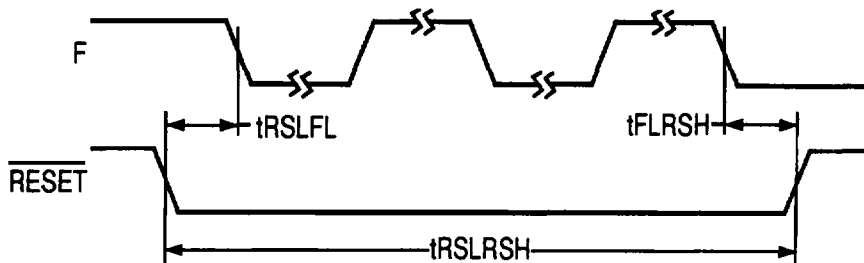
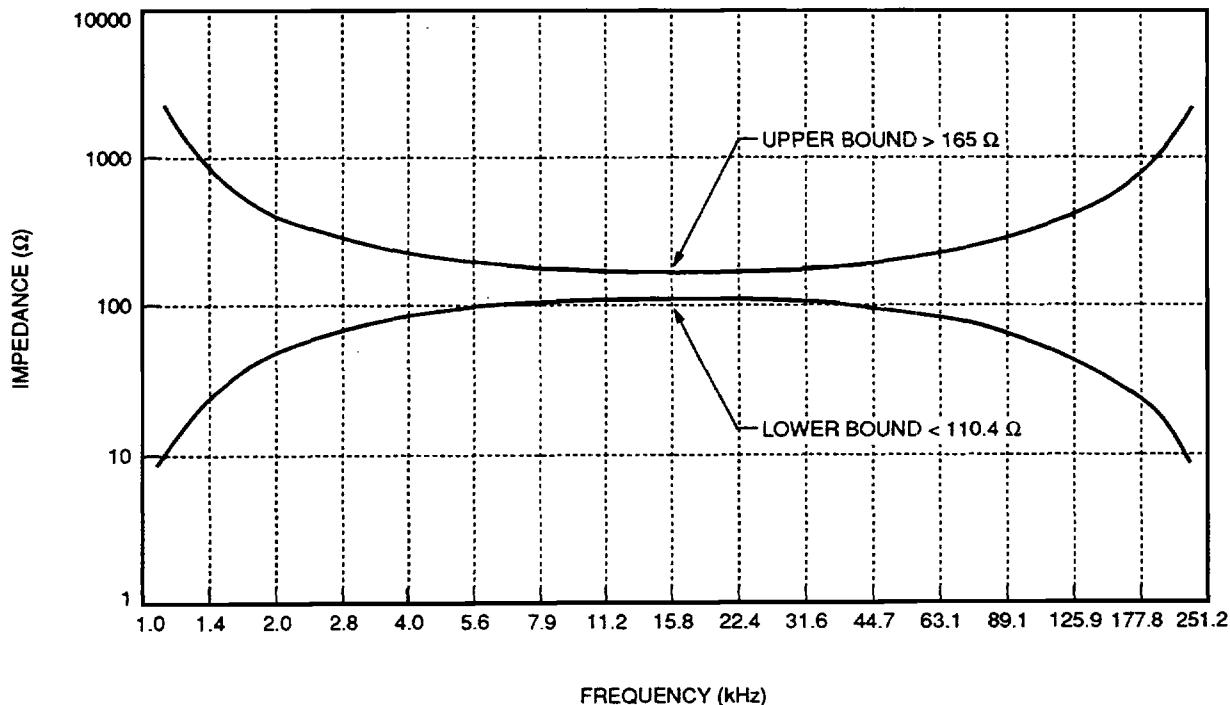

Figure 19. RESET Timing Diagram
Figure 21. Transceiver Impedance Limits
- A7:** The only common-mode filtering parts we have any data on are two common-mode chokes from Pulse Engineering, (619) 674-8100, that are intended to help protect against external common-mode noise. The part numbers are PE-68654 (12.5 mH) and PE-68635 (4.7 mH), and in lab experiments, no noticeable degradation in transmission performance was observed. These chokes are typically effective in the frequency range 100 kHz—1 MHz.
- As far as emissions are concerned, we don't have a lot of data. We have seen some success with the use of RJ-45 connectors that have integral ferrite beads such as those from Corcom, Inc., (708) 680-7400. These provide some flexibility in that they have the same footprint as some standard RJ-45 connectors.
- A8:** The NT1 impedance limits looking into tip/ring are derived from the T1.601 return loss requirements (Figure 19 in T1.601). At the narrowest point in the templates, the permissible range is between 111 Ω to 165 Ω. The tolerance on the PTC will reduce the impedance margin somewhat, but should still be acceptable.
Figure 21 is derived from the return loss template in ANSI T1.601. Return loss is a measure of the match between two impedances on either side of a junction point. The following equation is an expression of return loss in terms of the complex impedances of the two halves of the circuit Z_1 , Z_2 .
Plotting the above equations (using 135 for Z_0 and Figure 19 in T1.601 for the RL values) results in the graph shown in Figure 21, which shows the return loss expressed in terms of impedance upper and lower bounds.